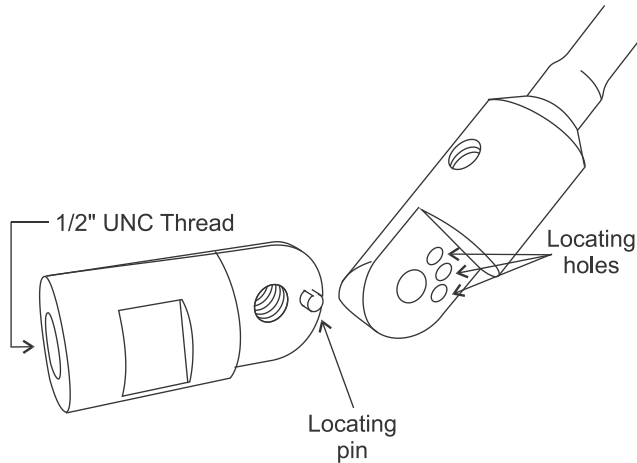

Figure 3
- 5) Attach the roof mount end of the whip to an appropriate location (see figure 1 as a guide). It could be attached to the optional NVIS kit magnetic mounting base (see figure 3), optional NVIS kit gutter mount bracket (see figure 4) or to a custom fabricated bracket (with 13mm hole). If the magnetic mounting base is used the roof mount end must be locked into one of three angle positions by locating the pin on the surface of one side of the fitting into the hole on the surface of the other side of the fitting (see figure 2). Once the correct angle is achieved tighten the knob firmly by hand.